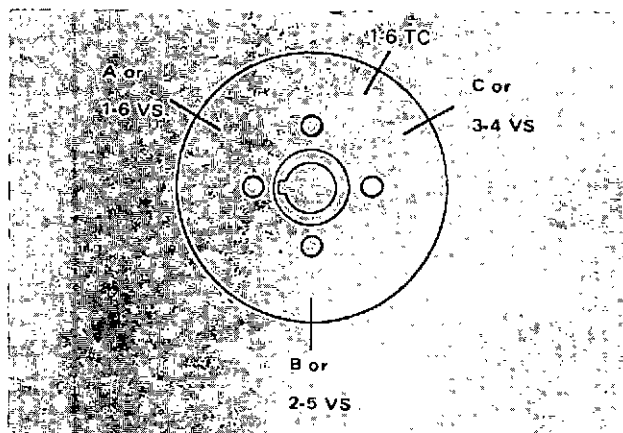

Fig. 2-43 (N114230) Accessory drive pulley marking
1. Bar engine until "A" or 1-6 "VS" mark on pulley, Fig. 2-43, is aligned with pointer on gear case cover. In this position, both valve rocker levers for cylinder No. 5 must be free (valves closed). Injector plunger for cylinder No. 3 must be at top of travel; if not, bar engine 360 deg., realign mark with pointer.